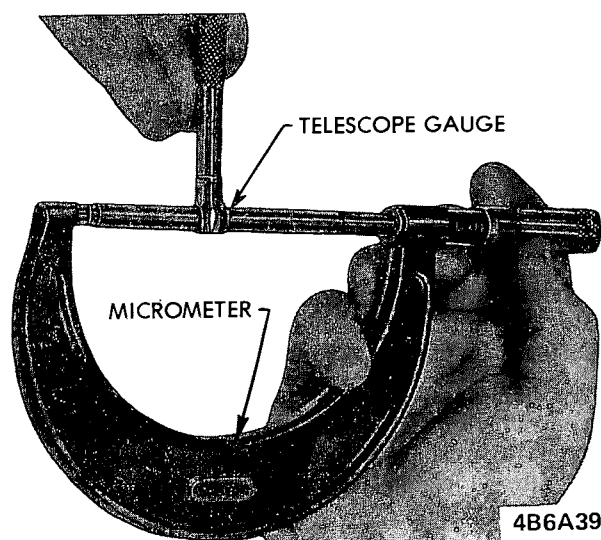

Figure 6A-85 - Measuring Telescope Gauge
3. Measure the piston to be installed. See Figure 6A-83. The piston must be measured at right angles to the piston pin 1/4" below the oil ring groove. The piston must be